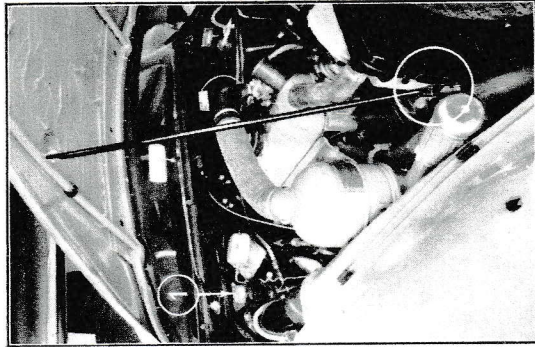

Figure 2
To hold the hood open engage the end of the stay (fig. 2) in the bracket on the left of the radiator above the exhaust pipe.
**Engine oil :** The dipstick is located on the left hand side of the engine behind the fuel pump and below the carburettor. The oil should be level with, but never over the upper shoulder (the space between the lower 2 and upper 1 marks corresponds approximately to 1 3/4 pints) (fig. 2 a).
Fig. 2 a
**Hydraulic brake fluid :** The level can be seen through the glass container 1 (fig. 2) and must be within the **Mini** and **Maxi** marks shown by arrows "danger" and "level".